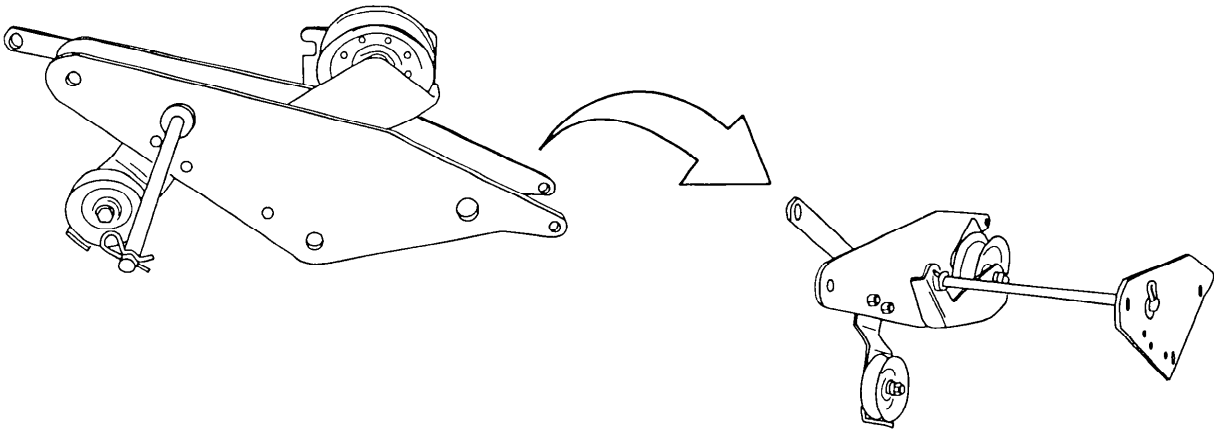

Figure 1
- Expand the tiller support assembly. See Figure 1.